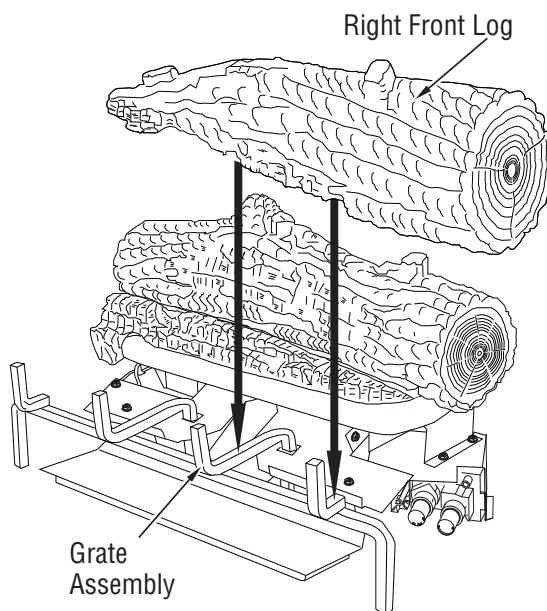

Figure 51 - Installing Right Front Log
- Place the right front log onto the base and grate assembly as shown in **Figure 51**. The log has notches in the bottom for the grate.